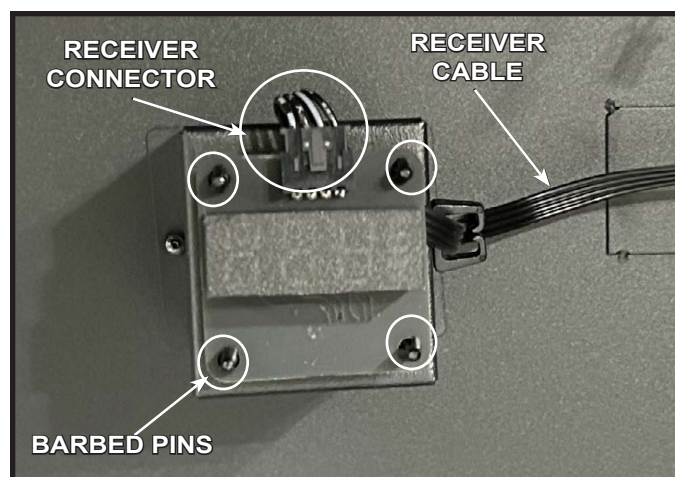

Figure 12 Receiver Location and Cable
5. Disconnect the receiver cable. See Figures 12 and 13.
6. Carefully align the new Remote Receiver Board to the barbed clips and gently push in place. See Figures 12 and 13.
7. Securely reconnect the wiring harness to the new remote receiver. See Figure 12.